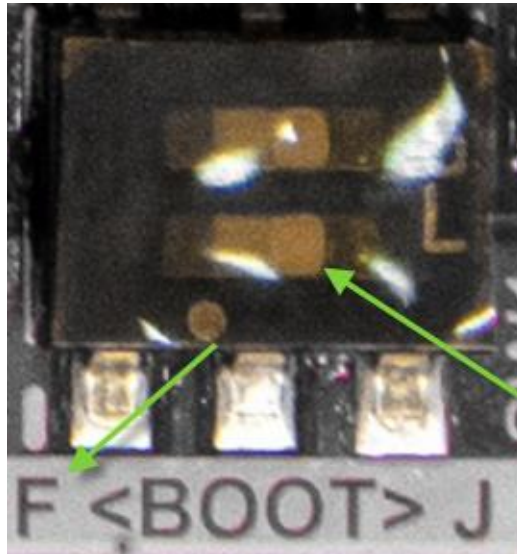

Figure 59 - Untouched Boot Switch
- a. Note: From the Factory the switch's protective film should be removed and already set to F. If it is not, the switch will look similar to Figure 59.